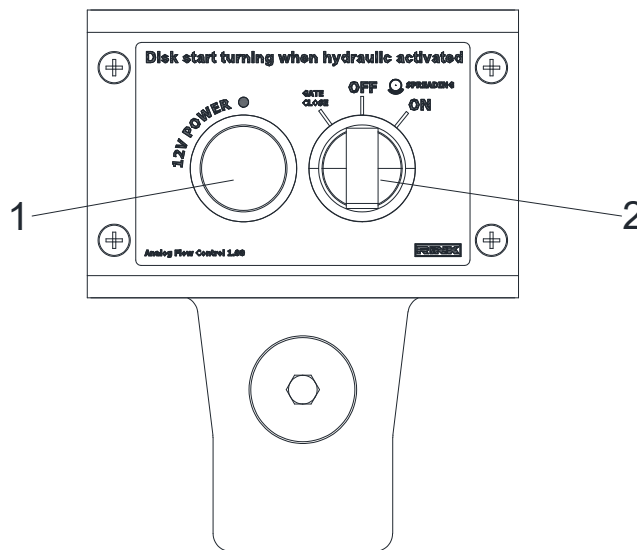

Fig. 30 Analog Flow Control operating device (evo)
1. On/Off illuminated button (Fig. 30/1) lights up. Analog Flow Control operating device is switched on.
4. When the rotary button (Fig. 30/2) is set to "ON", the gate opens and the conveyor unit accelerates to the set transport speed.
6. When the rotary button (Fig. 30/2) is set to "OFF", the conveyor unit is stopped.
7. When the rotary button (Fig. 30/2) is set to "Gate close", the gate starts to close. The rotary button must be pressed until the gate is closed.